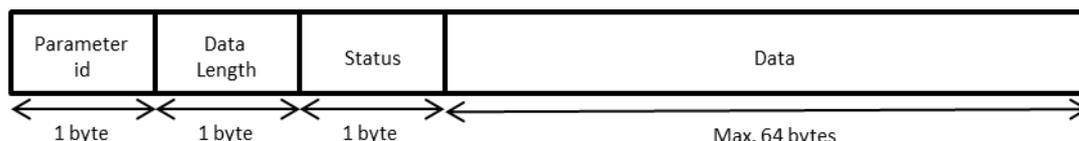

Figure 52: Indication Data Format in Read Response
- The format of the indication data is shown in Figure 52.